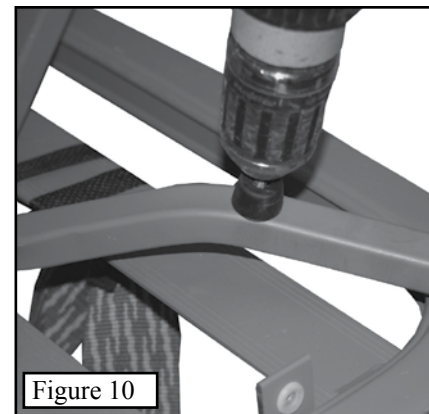
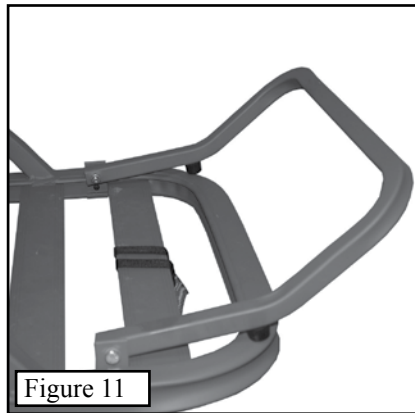

Figure 10
Figure 11
Step 7. Fold the bar down and note where it crosses the stand frame - make a mark at this point. Fold the bar back up. Secure the two rubber bumpers at the mark using the two remaining self tapping screws as shown in **Figure 10**. Your finished footrest should look like **Figure 11**.